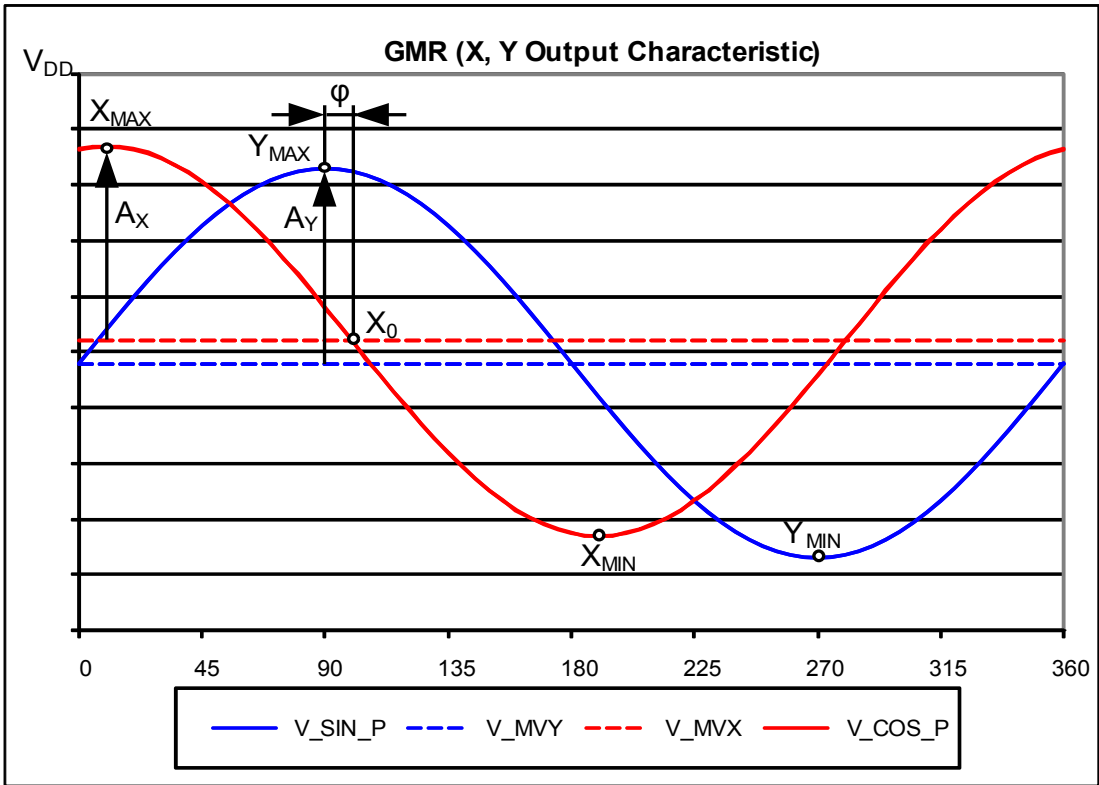
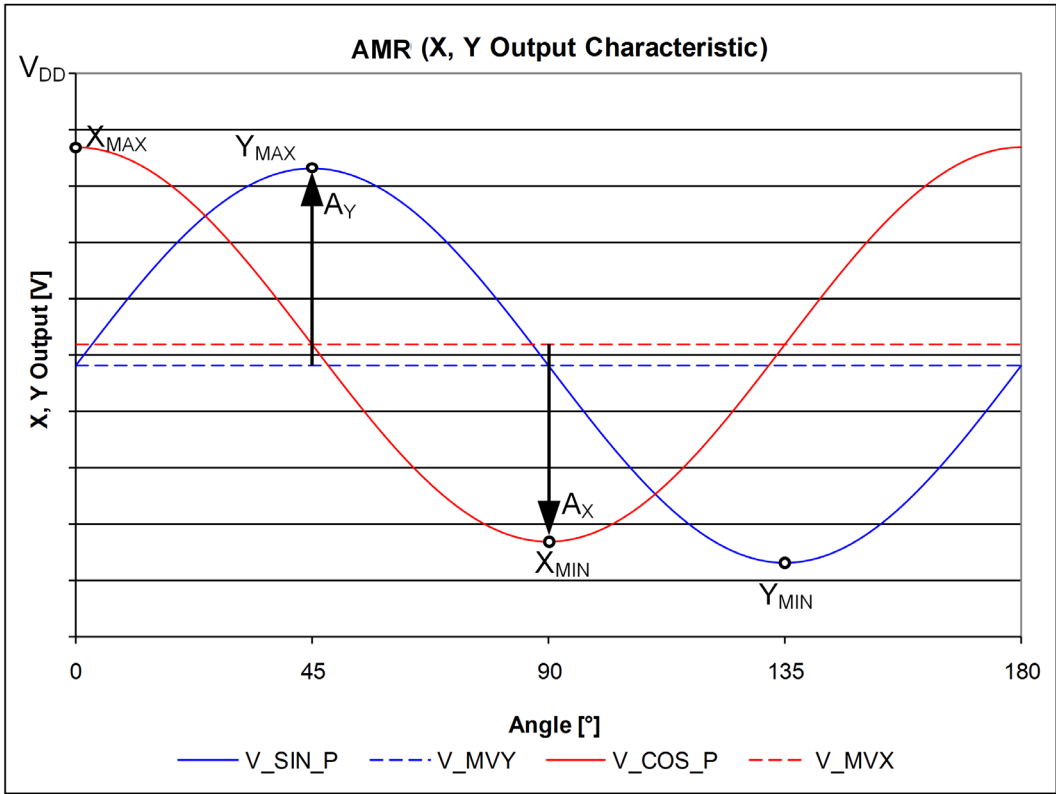
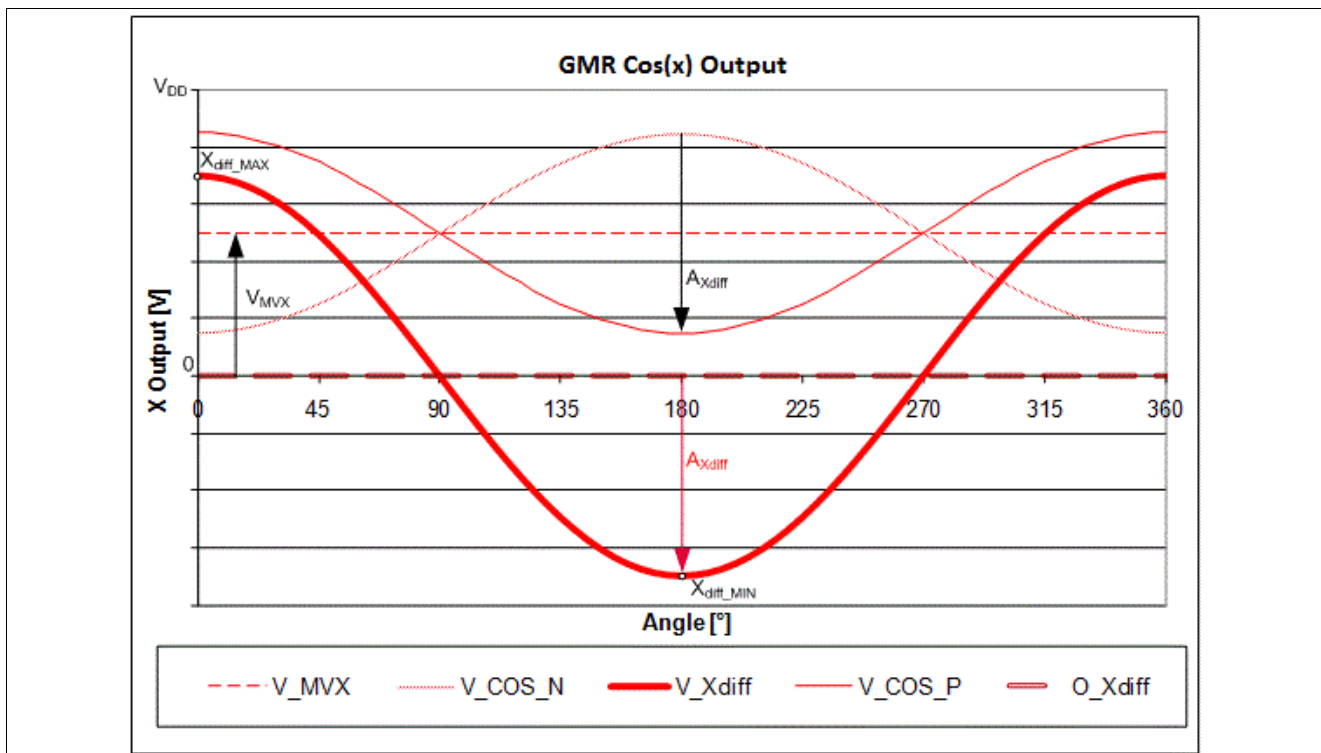

Figure 15 GMR sensor single-ended output signals
Figure 16 AMR sensor single-ended output signals
Figure 17 GMR differential output of ideal cosine
All parameters apply over the full operating range, unless otherwise specified. The parameters in Table 6 refer to single pin output and Table 7 to differential output. For variable names please refer to Figure 15 “GMR sensor single-ended output signals” on Page 18 and Figure 17 “GMR differential output of ideal cosine” on Page 19.
1) V_{max} and V_{min} correspond to the voltage levels at X_{max} or Y_{max} and X_{min} or Y_{min} respectively as shown in Figure 15, Figure 16.